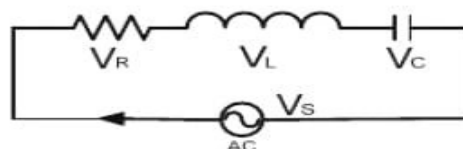

Fig.1 Series R-L-C circuit
2. Connect the resistor (R), inductor (L) and capacitor (C) in parallel (as shown in Fig.1) and obtain its frequency behavior as mentioned below. Also connect a small value resistor (5 ohms) for the purpose of measuring the input current.
This lab is similar to the RC Circuit Lab except that the Capacitor is replaced by an Inductor. In this experiment, we apply a square waveform to the RL circuit as shown in fig.1 to analyze the transient response of the circuit. The pulse-width relative to the circuit's time constant determines how it is affected by the RL circuit. The time constant of an RL circuit is the equivalent inductance divided by the Thévenin resistance as viewed from the terminals of the equivalent inductor.